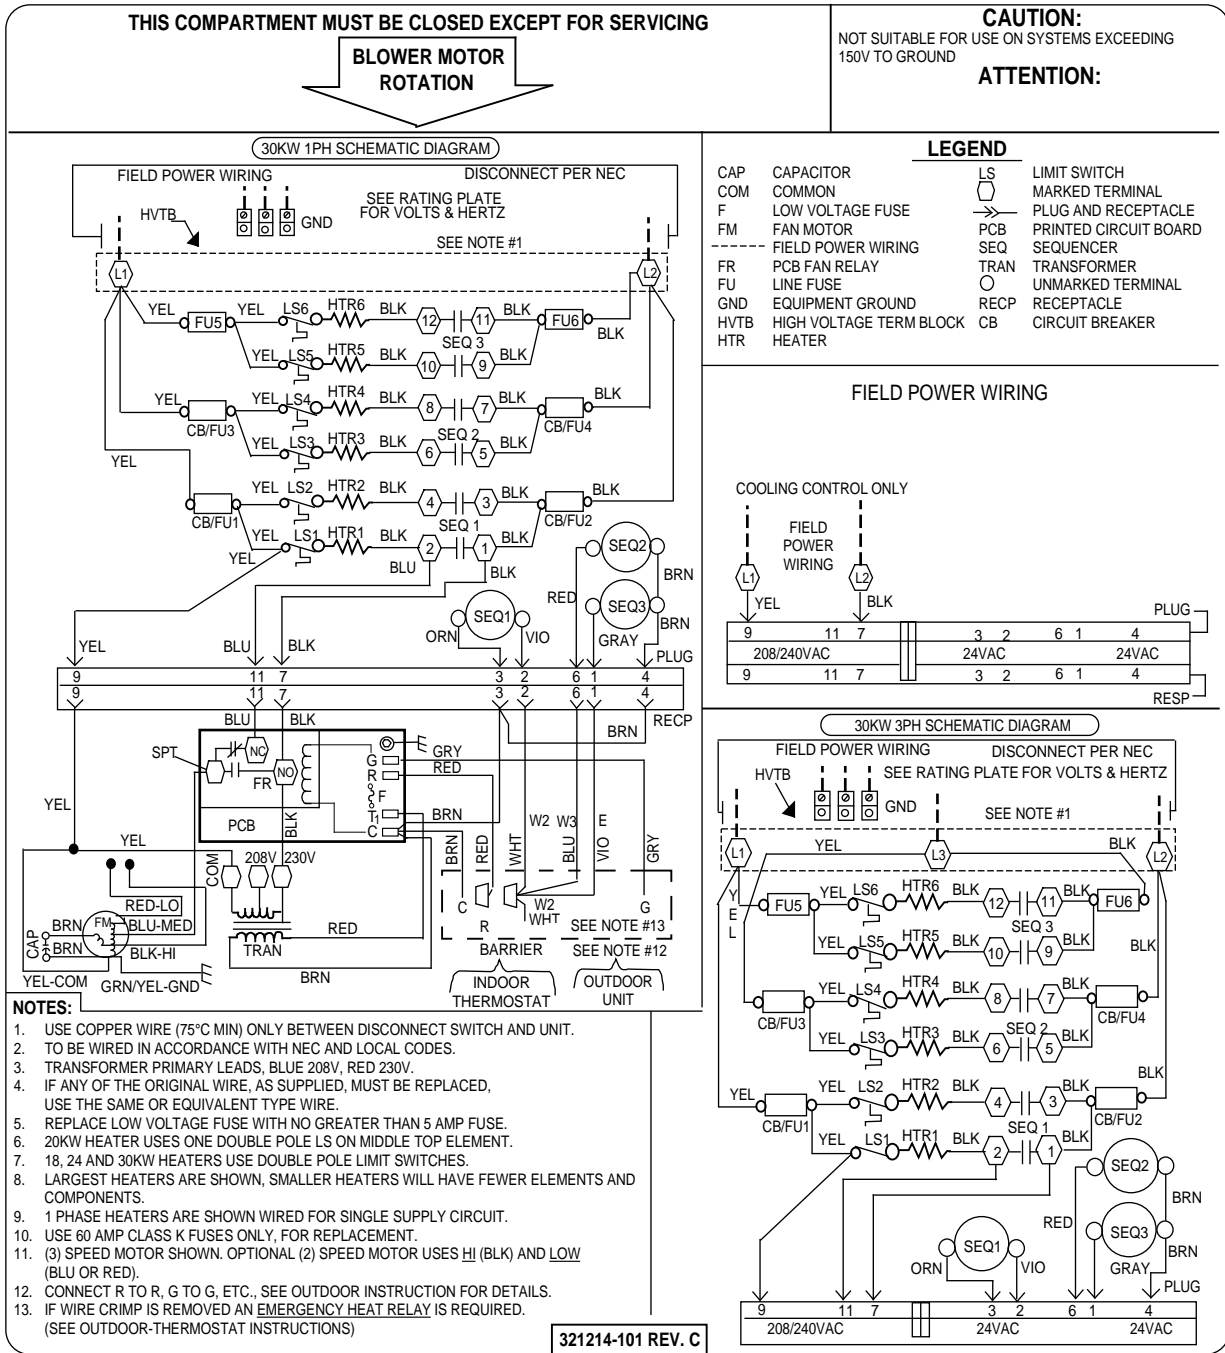

Fig. 4—Wiring Diagram of Sequencer Heater
Use wiring schematics shown in Fig. 4 and 5 as a guide in troubleshooting PCB unless otherwise noted.
1. Check wiring of sequencers/relays as shown in Fig. 4 and 5. Be sure transformer is not shorting out because thermostat wires are miswired.
2. Check wiring of sequencers/relays as shown in Fig. 4 and 5. Be sure low-voltage and high-voltage wiring is correct.